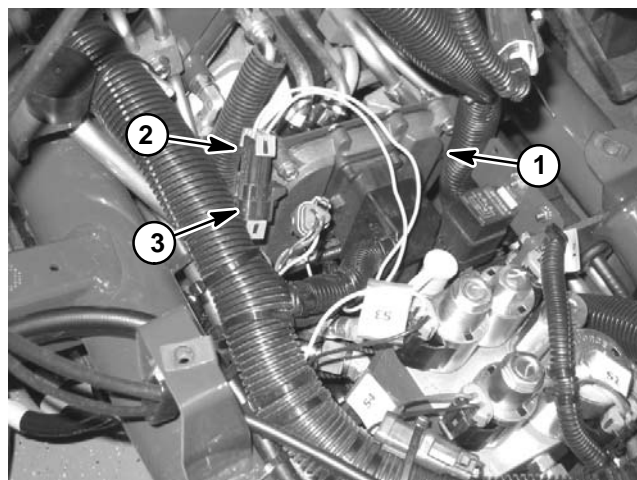

Figure 13
- The loopback connector is not connected to the machine wire harness (Fig. 13).